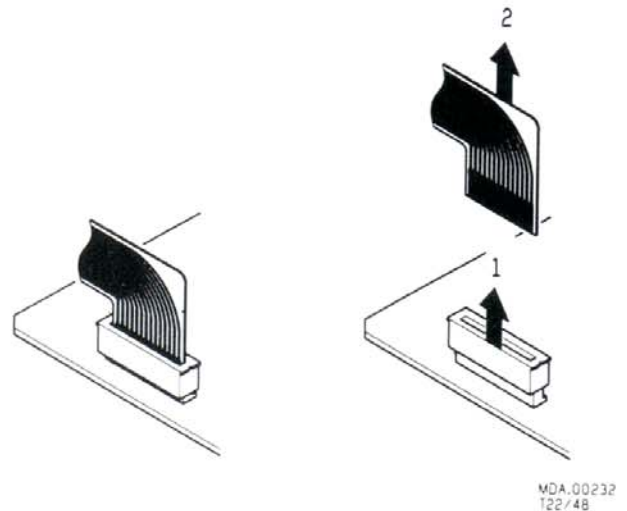

Fig. 2
- Remove the flexible PCB from the connector on the PCB by lifting the upper part of the connector and taking the flexible PCB out. (see Fig. 2)